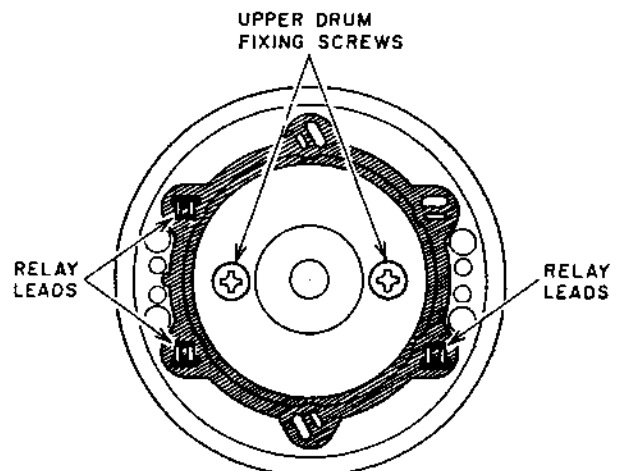

Fig. 4-19
- 1) Unsolder the six relay leads and remove the two upper drum fixing screws as shown in Fig.4-19.